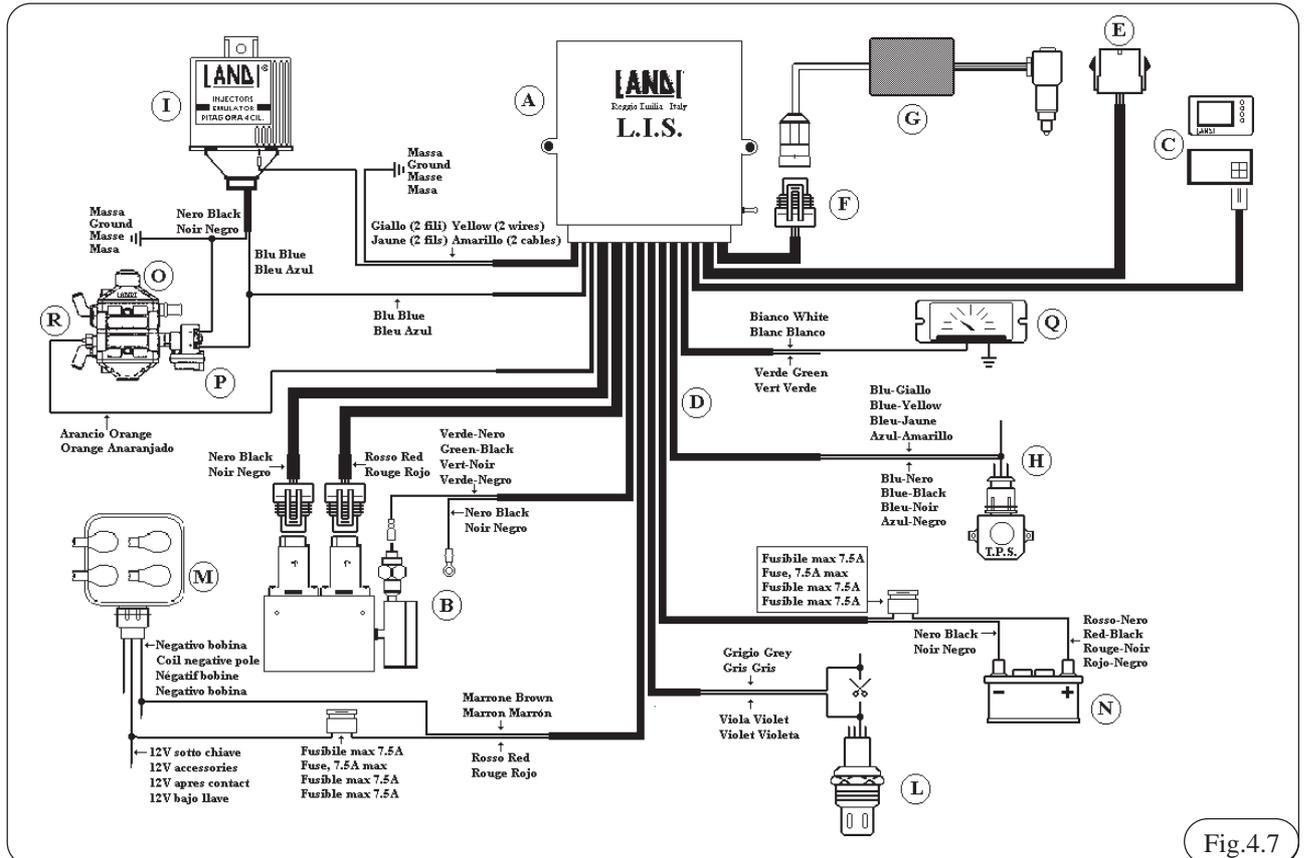

Fig.4.7
- Once the tubes are connected, secure them with the clamps provided (Fig.4.7).